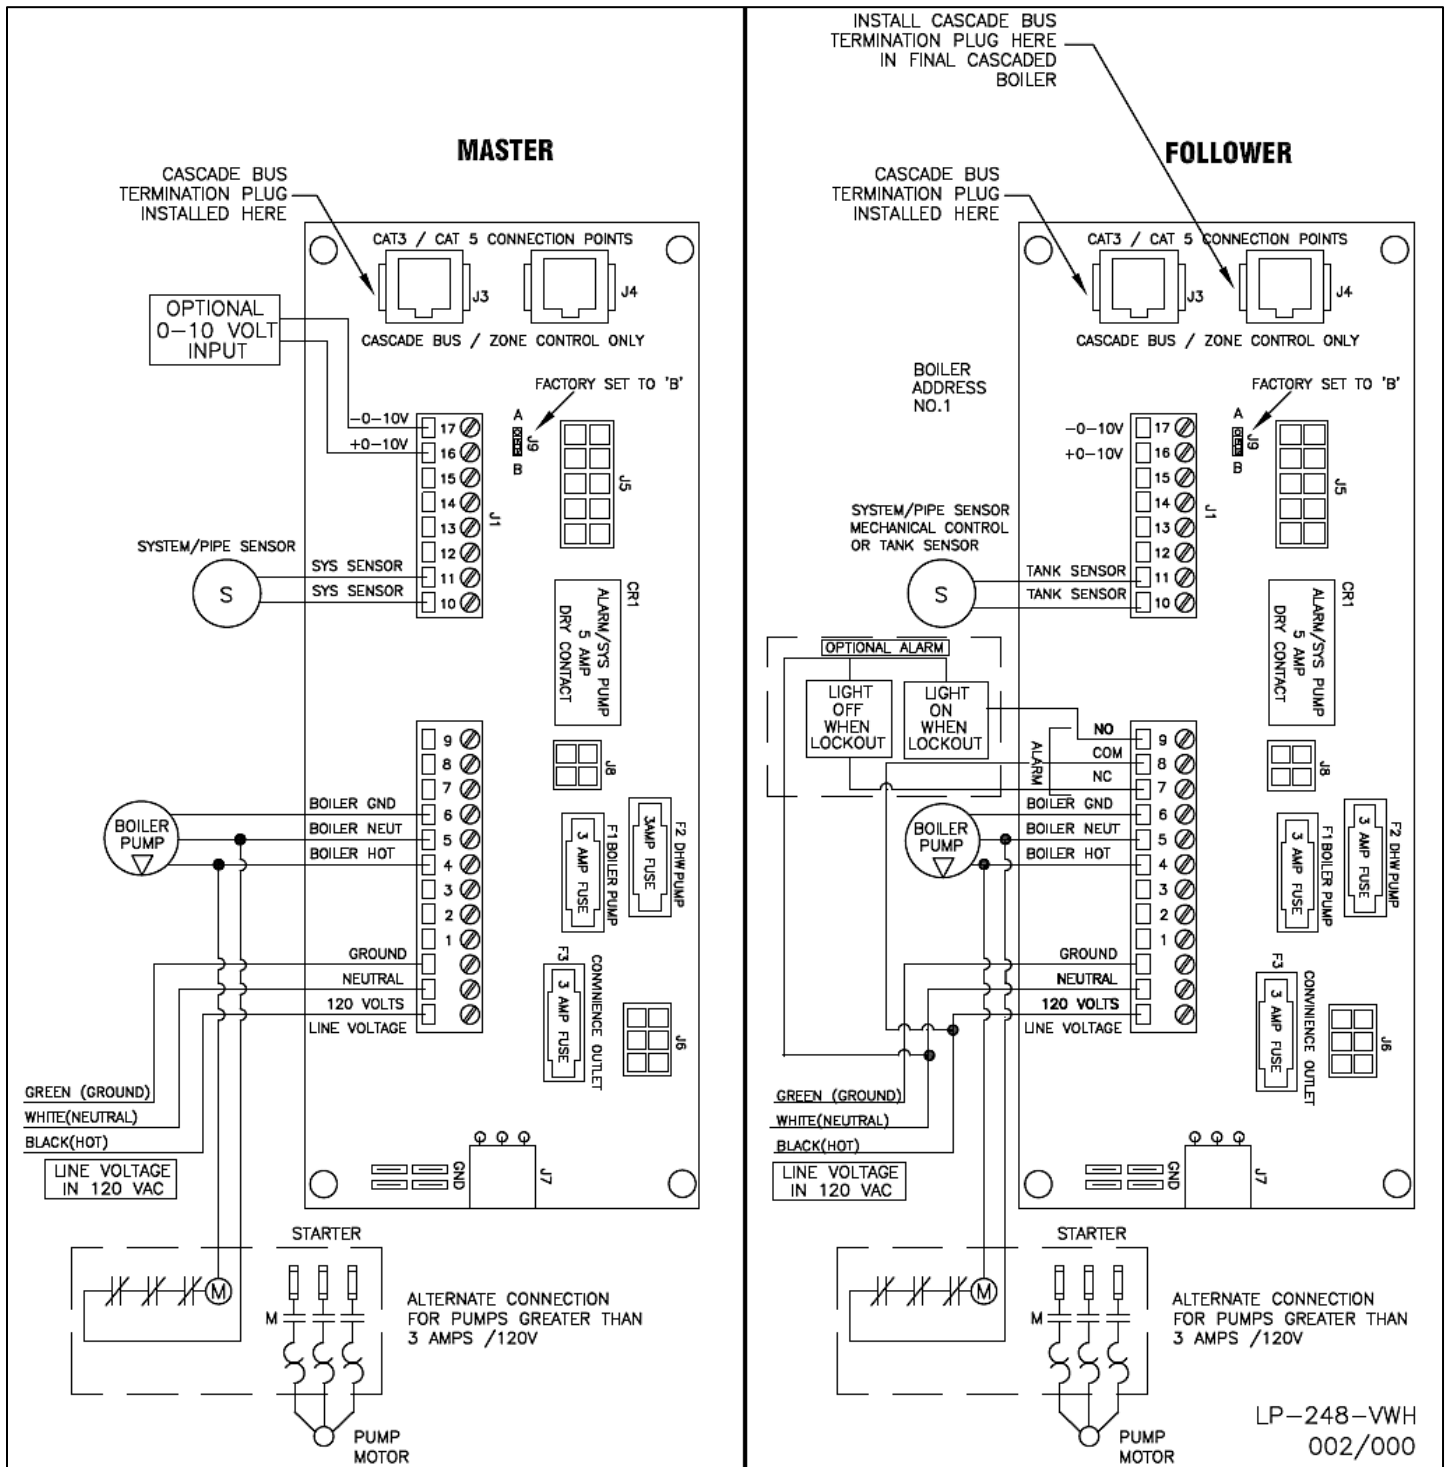

Figure 27 – Mod Con VWH Cascade Master and Follower
4. If it is desired to monitor the boiler system to detect a lockout condition, a dry contact alarm relay is provided. Please see Figure 27 for wiring suggestions for this relay. Note that the alarm output of the boiler addressed as 1 will be active for lockout alarms on boiler 1 as well as on the master boiler.